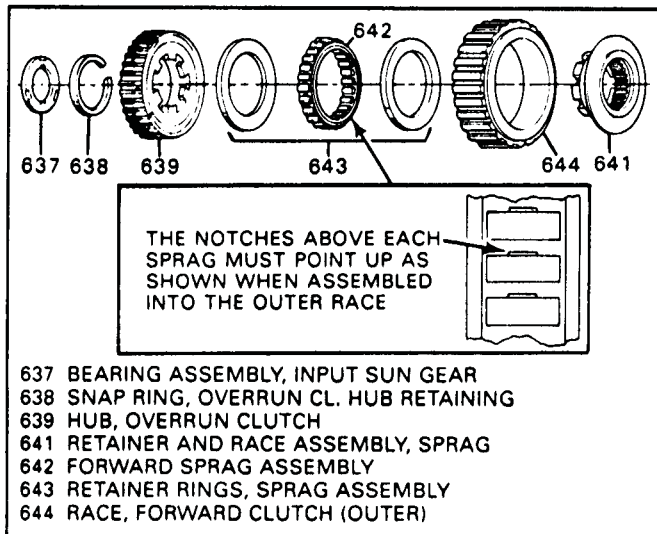
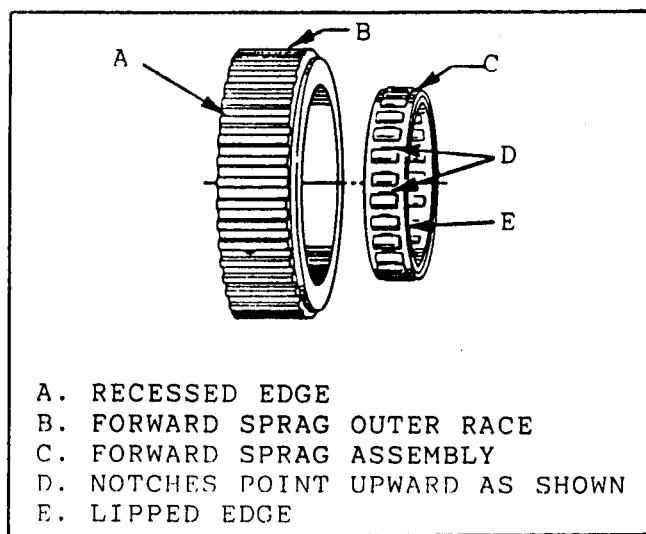

Figure 96
Figure 97
2. Install the forward sprag assembly into the outer race from the side opposite the recess, as shown in Figure 97.
3. The notches in the sprag assembly cage must face upward as shown Figure 96 and Figure 97.